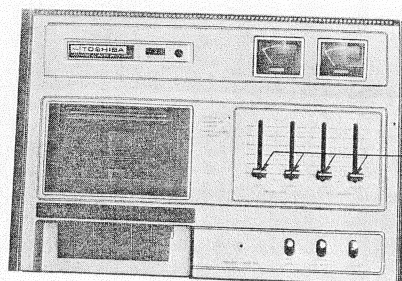

Figure 4. Location of knobs
1. Remove the four Volume Control Knobs. See figure 4.
1. Remove the chassis from the bottom cover and panel. See figure 4, 5 and 6.